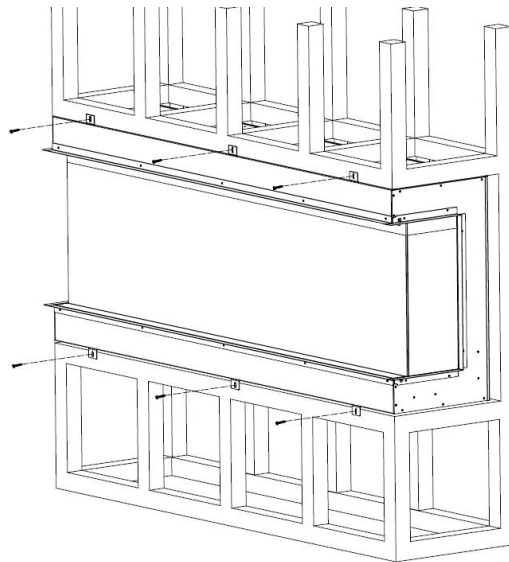

Fig.3-3
6. Insert the fireplace into the wall opening. Drive the mounting screws into the brackets and the wall studs. Plug in and check if the fireplace works properly.Fig.3-3